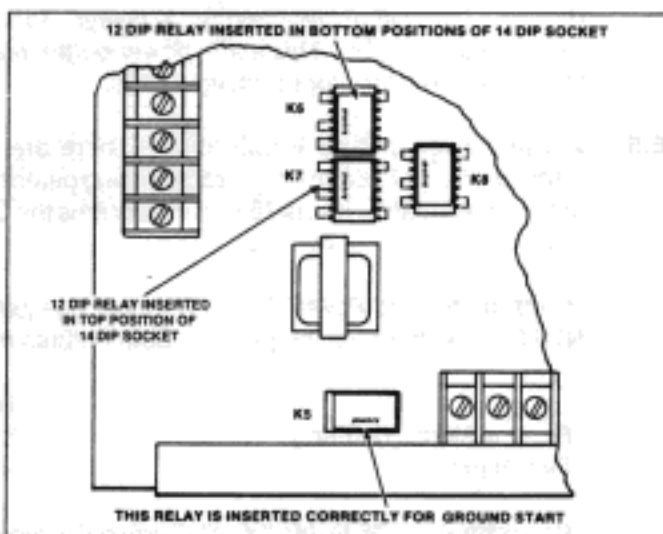

Figure 6. Plug-in Relay Installation
- 7.3 Installation** - The plug-in relays (Radionics model D136) are packaged as a 12 DIP. The sockets (K5-K8) are a 14 DIP package. The sockets are designed so relays can be inserted using either the top or the bottom positions of the package as shown in Figure 6.